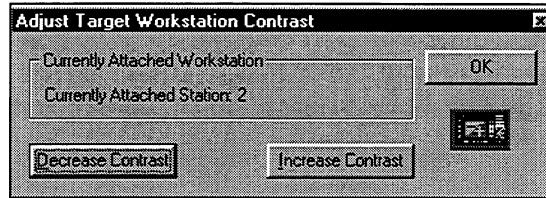

Figure 12-9. Adjust Target Workstation Contrast Dialog Box
1. Select the Screen Contrast command on the Target Workstation menu to open the Adjust Target Workstation Contrast dialog box, as shown in Figure 12-9.